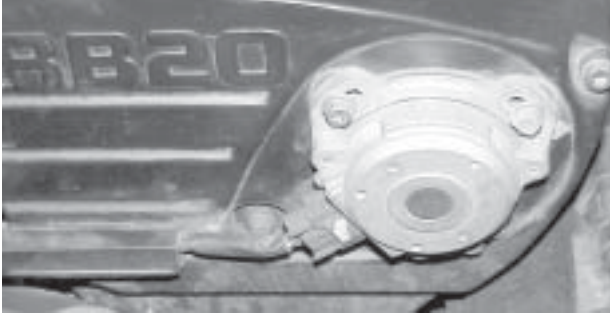

Figure 2.1 - Location of Crank Angle Sensor
Step 7: Base Timing Adjustment - The base timing of the engine should now be retarded. With the Crank Angle Sensor (CAS) in its original position the GTSLink will produce a base timing which is far too advanced and may cause the engine to detonate. Figure 2.1 illustrates the location of the CAS. Loosen the three bolts and rotate the CAS to the FULLY ANTI-CLOCKWISE direction to retard the spark. Next select the ADV LIMIT menu from the * IGNITION * menu and set to zero (but do not STORE). This will prevent the GTSLink scheduling any electronic advance and will provide spark at base timing. Now start the engine. At idle adjust the timing to approximately 10° BTDC with a timing light. Each timing mark is 5° apart with yellow mark being TDC. Be aware that the timing light will produce two different values depending on the way the timing light pickup is orientated. The orientation, which produces the MOST RETARDED value, is the correct one. Because the engine has a coil directly